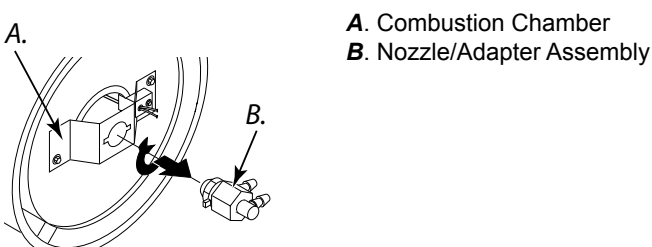

Figure 20 – Removing nozzle/adapter assembly
4. Turn nozzle assembly 1/4 turn to left and pull toward motor to remove (see Figure 20).